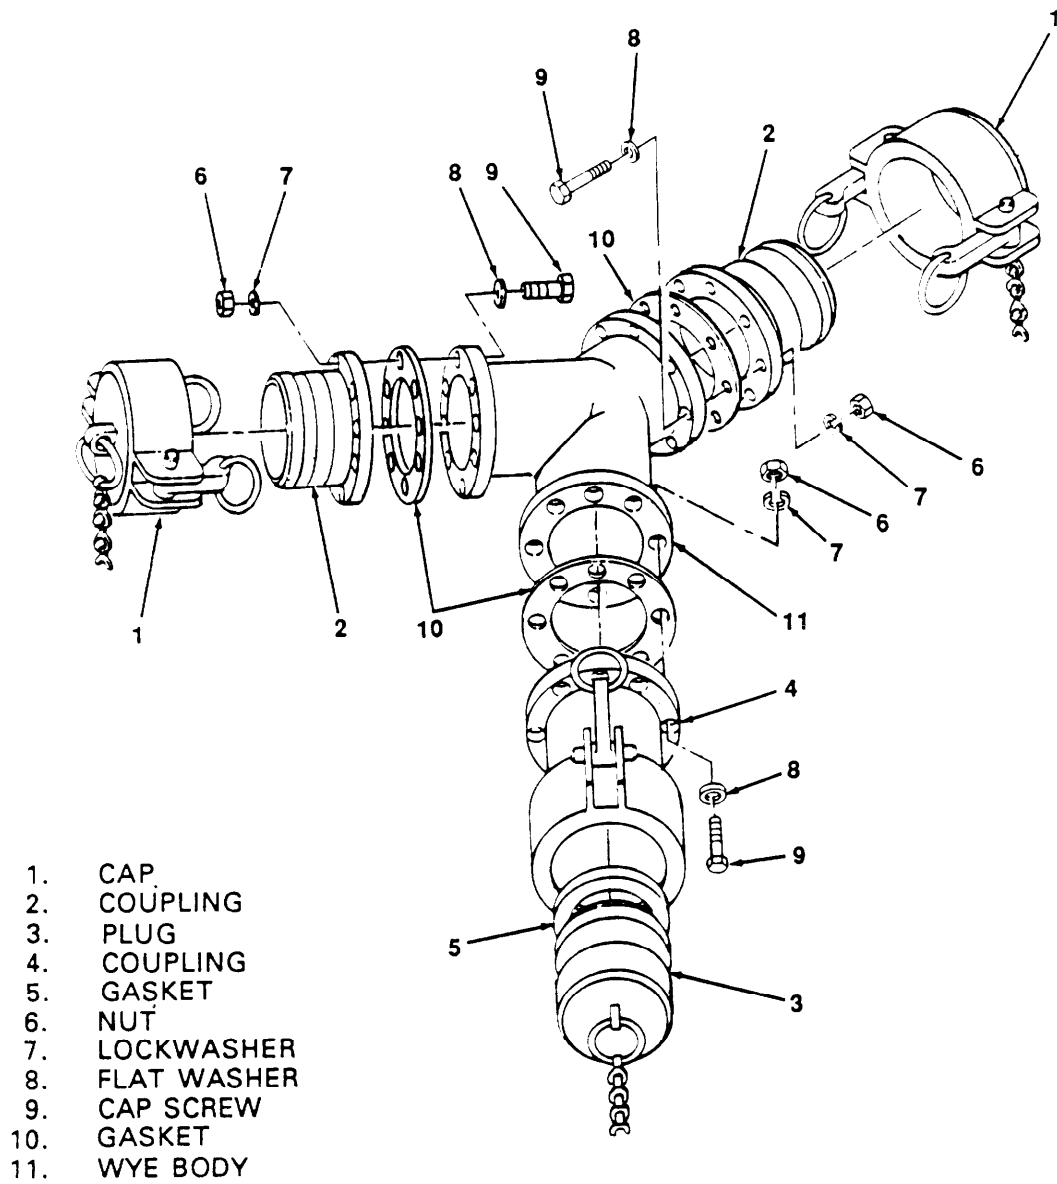

Figure 4-5. Wye Assembly Repair.
(2) Wye assembly (figure 4-5).
- (a) Remove caps (1) from coupling (2).
- (b) Remove plug (3) from female coupling (4) and replace gasket (5).
- (c) Remove nuts (6), lockwasher (7), flatwashers (8) and cap screws (9) and remove couplings (2 and 4).
- (d) Remove cork gaskets (10) from wye body (11). Remove old sealing compound from flanges on wye body (11) and couplings (2 and 4).
- (e) Install new cork gaskets (10) using sealing compound (MIL-S-791 6).
- (f) Install wye body (11) and couplings (2 and 4) using cap screws (9), flat washers (8), lockwashers (7) and nuts (6).